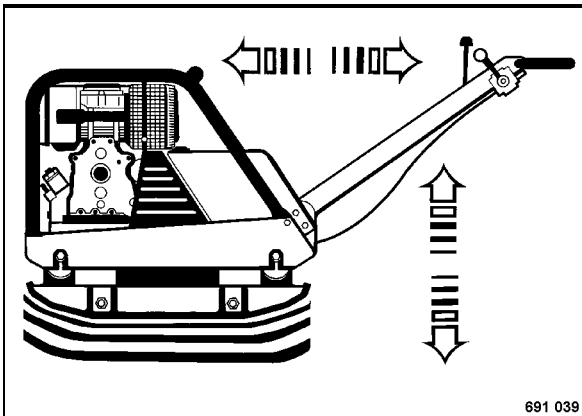

Fig. 16
- The vibratory plate compacts in forward and reverse or on the spot (Fig. 16).